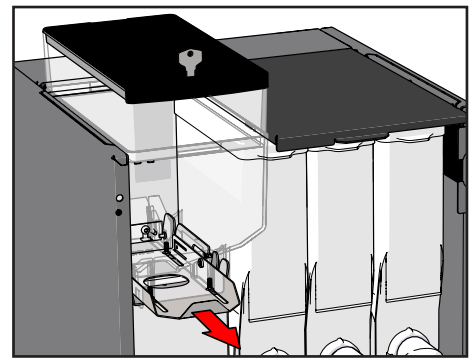

Figure 59. Pull the slide
2. Pull the canister slide towards you (see Figure 59). This will release the canister and close it at the bottom.